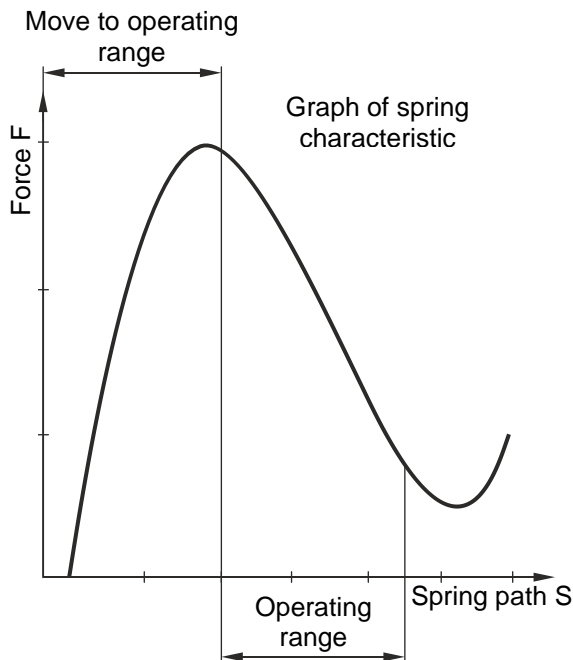
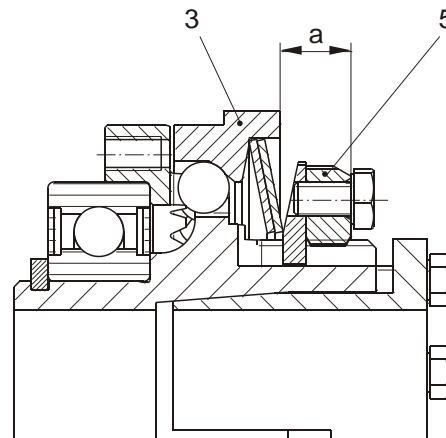
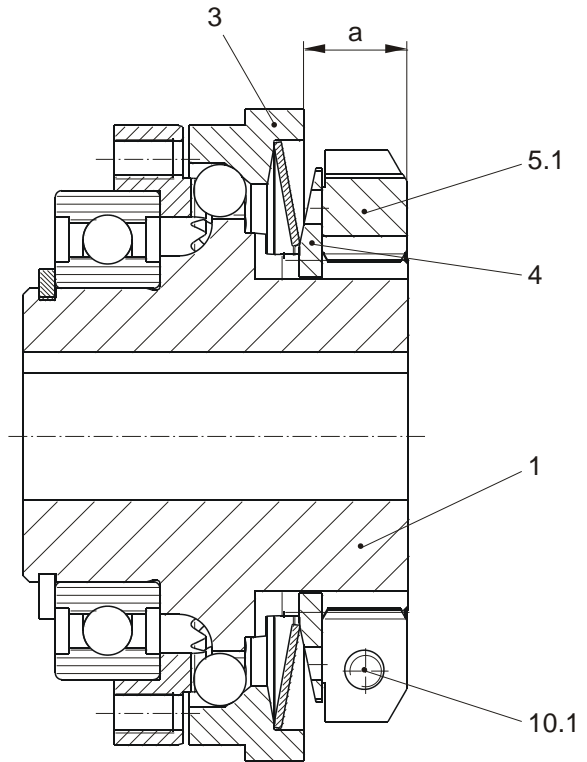

Fig. 9
Fig. 11
Fig. 12
The respective torque adjustment range is printed on the Type tag (14). Torque adjustment is carried out by turning the adjusting nut (5). The installed cup springs (9) are operated in the negative range of the characteristic curve (see Fig. 9); this means that a stronger pre-tensioning of the cup spring results in a decrease of the spring force.
Adjusting the adjusting nut (5) or distorting the cup spring (9) outside of the cup spring characteristic curve (see Fig. 9) stops the clutch functioning.
The inspection dimension "a" (see Table 3) can show deviations due to construction tolerances or to clutch wear. After de-installing the clutch (e.g. due to cup spring replacement or changes to the cup spring layering), the clutch must be re-adjusted and calibrated using dimension "a" (see Table 3 and Figs. 11/12).
It is possible to check the "Spring operation in the operating range" (Fig. 9) using the dimension "a" (distance from the adjusting nut (5) facing side to the thrust washer (3) facing side, as shown in Fig. 11).
e) Paint the hexagon head screw (10) with Loctite 243 and screw it into the adjusting nut (5); the 4 notches (A) in the adjusting nut (5) and the notches (B) in the locking ring (4) must be in the same position (Fig. 9). Correct slightly if necessary.
It is possible to check the "Spring operation in the operating range" (Fig. 9/ page 14) using the dimension "a" (distance from the adjusting nut (5.1) facing side to the thrust washer (3) facing side, as shown in Fig. 12).